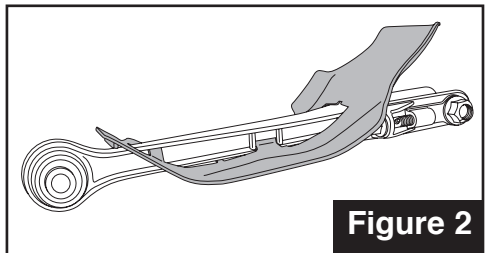

Figure 2
9. If tight, loosen clamping fasteners on SPC control arm $\frac{1}{4}$ to $\frac{1}{2}$ turn (4x 13mm nuts – located on underside of control arm. (**Figure 2**))
10. Adjust camber to desired specification using adjuster bolt located on underside of control arm. (**Figure 2**)
5. If equipped, reinstall OE brake air deflector on new trailing arm in same orientation as OE arm. **Figure 2**